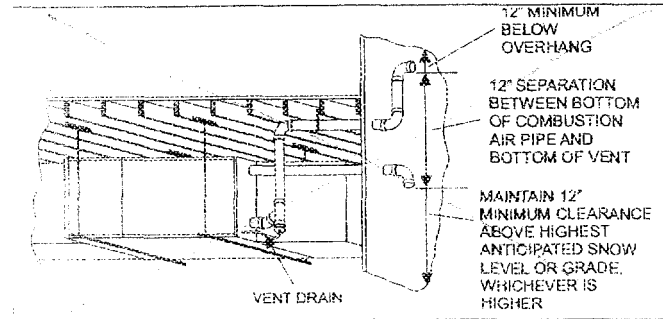

FIGURE 22: Crawl Space Termination Configuration - 2 Pipe
5. Horizontal portions of the vent system must slope upwards and be supported to prevent sagging. The vent system may be supported by the use of clamps or hangers secured to a permanent part of the building's structure. (See Figure 22).